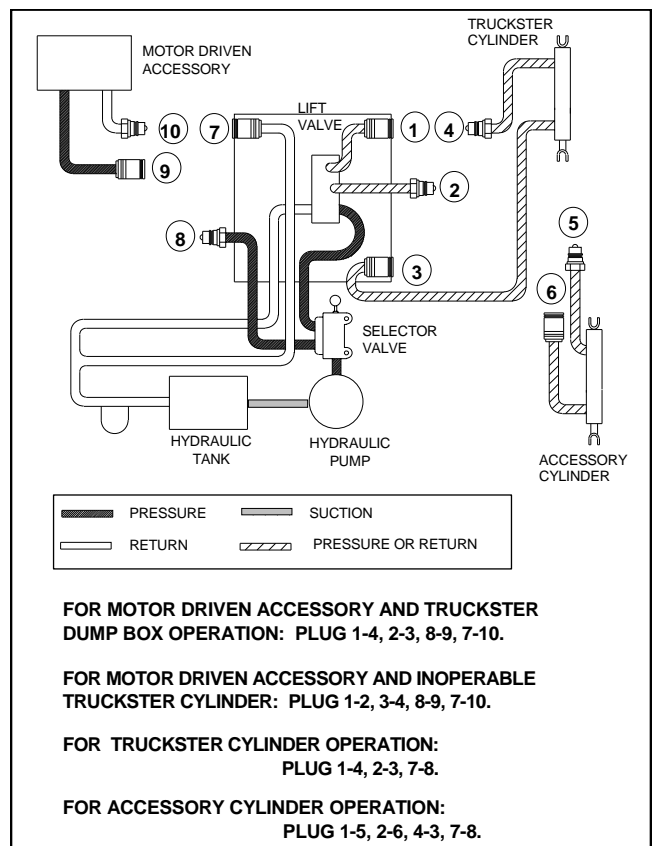

Figure 51
14. Connect the male coupler on hose coming from rear of conveyor motor to coupler on bottom of conveyor motor. This creates a closed loop at conveyor motor (Refer to Fig. 51).